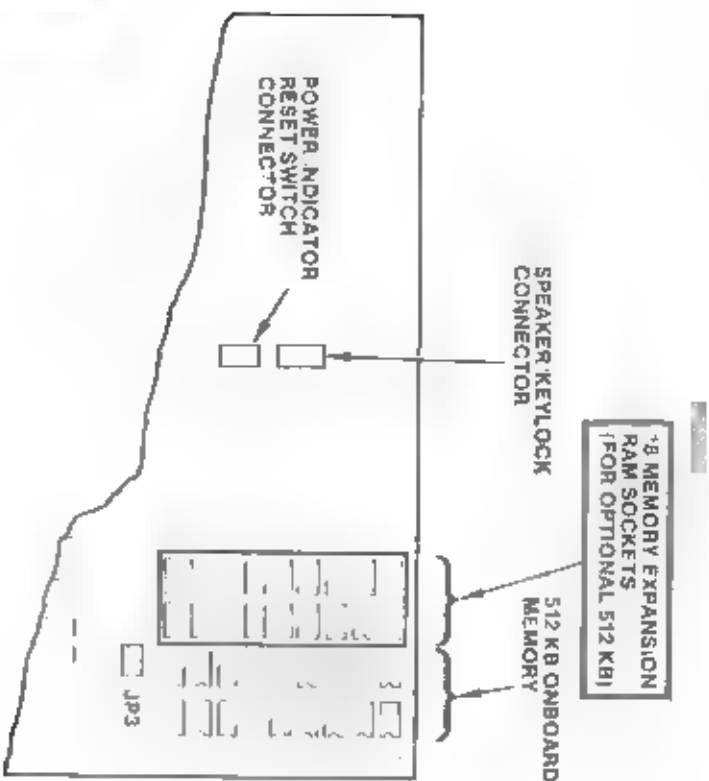

Figure 7-1 Optional Memory Chip Location
Your PC system unit comes equipped with 512K bytes or 1M byte of memory installed on the system board. If you only have 512K bytes, the system board has expansion sockets for adding 18 memory chips (another 128K or 512K bytes of memory). Adding these chips brings the on-board memory up to 640K or 1M byte. Figure 7-1 shows the location of the memory sockets.
2. If controller boards are blocking access to the expansion memory sockets on the system board (see Figure 7-1), remove the controller boards, as described in section 2.4.